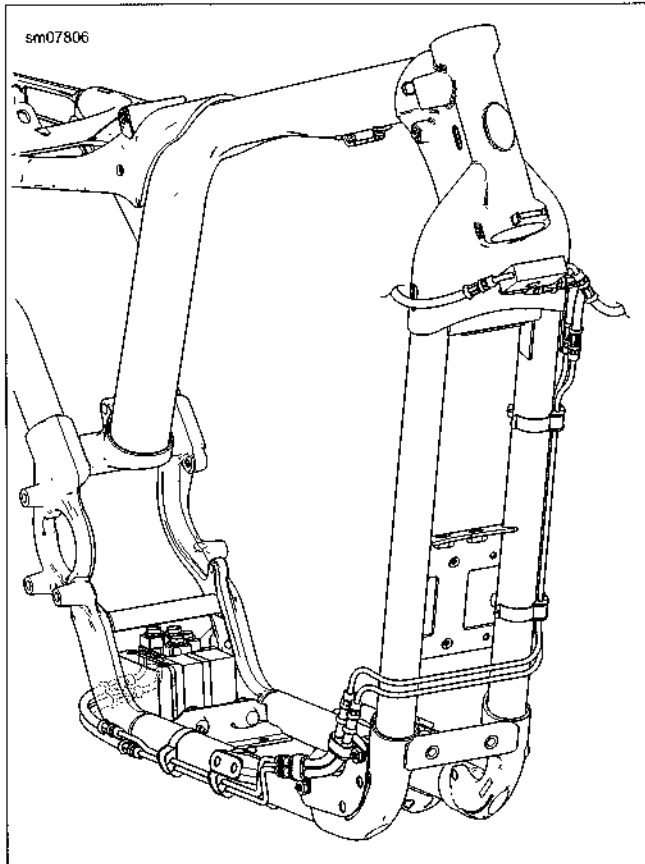

Figure C-10. Manifold to EHC Front Brake Line Routing
3. Install the clip (7) over brake lines.
4. See Figure C-10. Route brake lines around rear of frame and along the lower right frame toward the front of the vehicle.